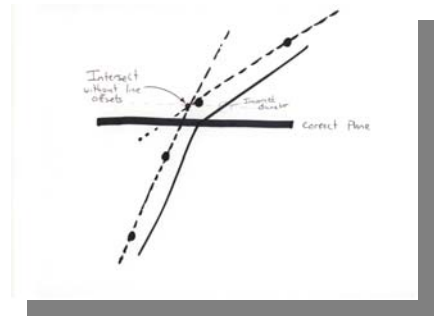

Figure 4
- Figure 4 shows what happens if you do not do the constructions above and just try to intersect the two uncompensated lines.